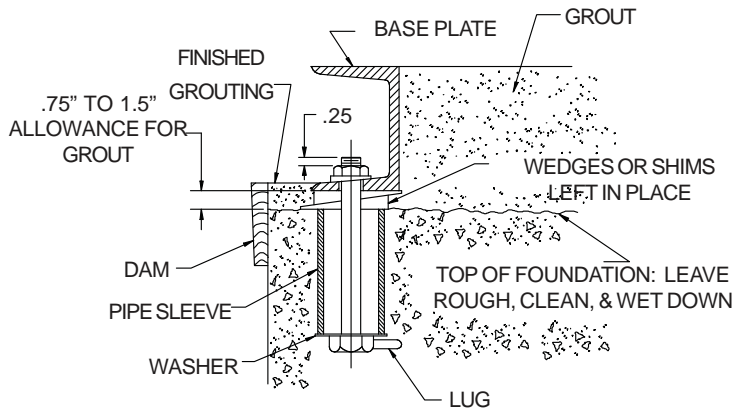

FIGURE 2a: Anchor Bolt Installation
- Horizontal pumps should be permanently installed on a firm, concrete foundation mounting pad of sufficient size to dampen any vibration and prevent any deflection or misalignment. The pad may float on springs or be a raised part of the equipment room floor. The foundation should be poured without interruption to 3/4 to 1-1/2 inches below the final pump elevation. The top surface should be well scored or grooved before the concrete sets to provide a suitable bonding surface for the grout. Anchor bolts should be set in pipe sleeves for positioning allowance, as shown in (Fig. 2a) on page 4. Allow enough bolt length for grout, lower base plate flange, nuts and washers. Allow the foundation to cure several days before proceeding with pump installation.
- After pump alignment has been established, put nuts on foundation bolts and tighten them just enough to keep the unit base plate from moving. Construct a form or dam around the concrete pad and pour grout in and around the pump base, as shown in (Fig. 2a). Grout compensates for uneven foundation, distributes the weight of the unit, and prevents shifting. Use an approved, nonshrinking grout (such as Embeco 636 by Master Builders, Cleveland, Ohio or equivalent). Allow at least 24 hours for this grout to set before proceeding with piping connections.
The PACO LCV Vertical Close Coupled pump need not be grouted to its foundation, but should be anchored with 4 anchor bolts set in concrete similar to the horizontal anchoring arrangement (Fig. 2a).